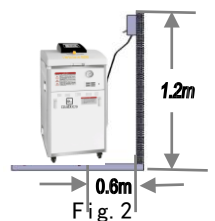

Fig. 2
6.3 Sufficient space shall be left for operation and maintenance around the installation location of the sterilizer. The operator shall install a circuit breaker (with current $\geq 25A$, see Fig.2) at the position of 0.6 meters and height over 1.2 meters from the sterilizer to the building to facilitate operation.